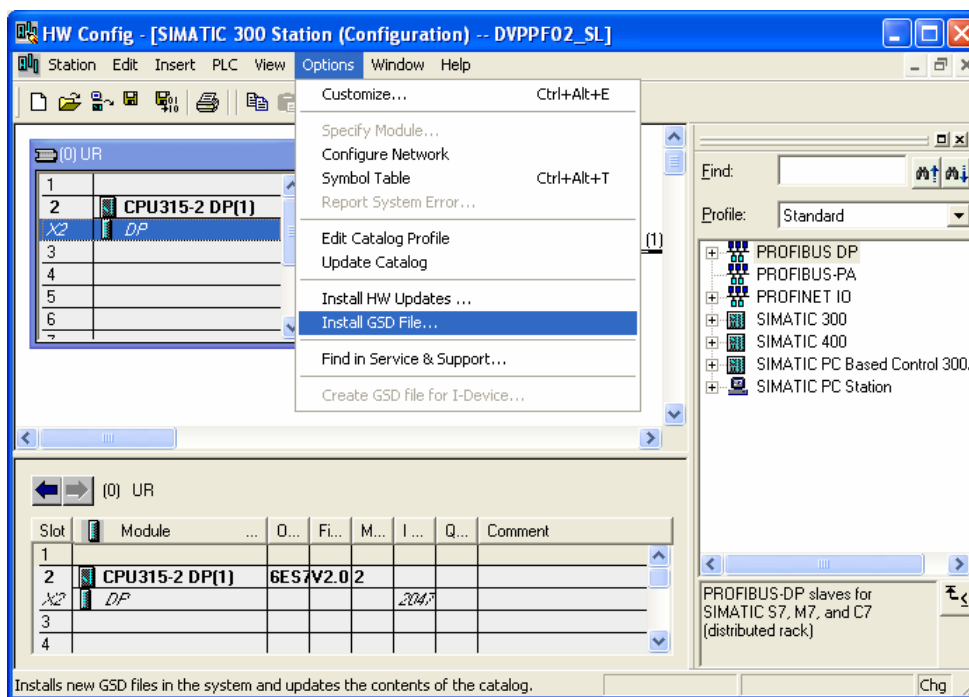

Figure 10-17
- In the HW Config window, select "Options" => "Install GSD File", as Figure 10-17.